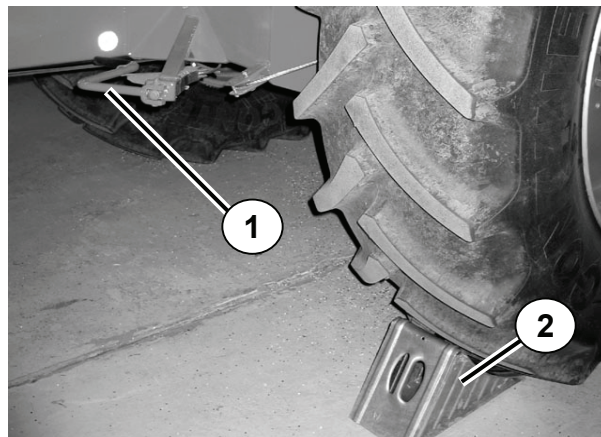

Fig. 25: Apply parking brake (hydraulic brake system)
3. Place chocks under both wheels (Fig. 25: Pos. 2).